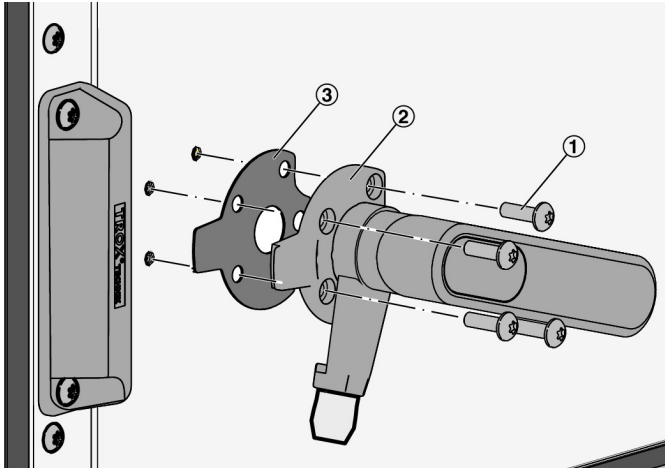

Fig. 40: Adjusting contact pressure of the inspection access door
8. ▶ Loosen screws (Fig. 40 /1) of the locking mechanism (Fig. 40 /2) and insert the compensating plate (Fig. 40 /3). Install by following these steps in reverse order and tighten the screws.